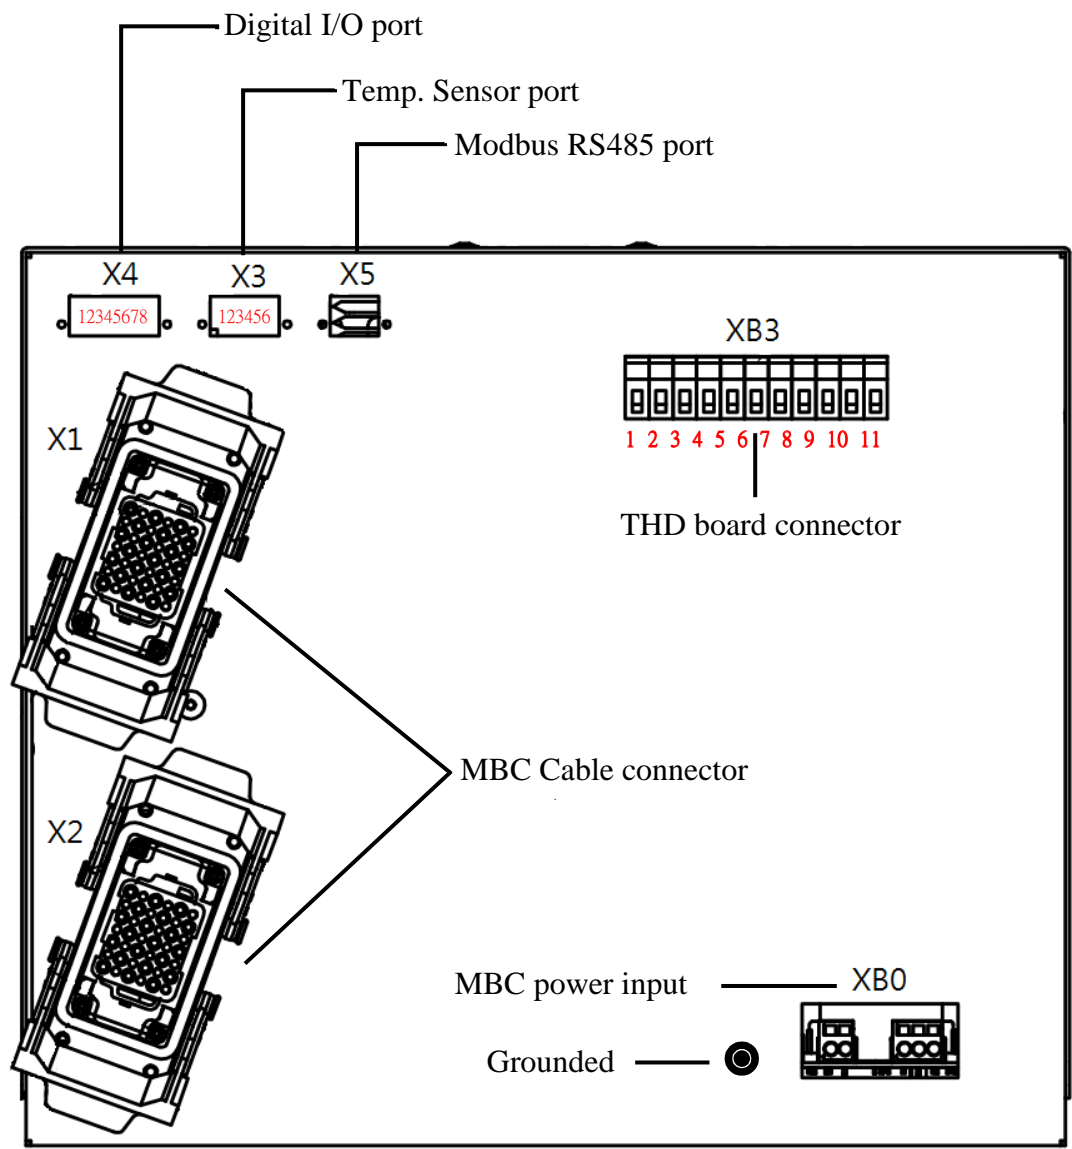

Figure 5.1 MBC connection
X1	Front bearing cable connector to motor, 2m (refer to figure 5.1)
X2	Rear bearing cable connector to motor, 2m (refer to figure 5.1)
X5	RS-485 protocol port (refer to figure 5.1)
XB3	Max. 250VAC/0.25A or 30VDC/2A power supply. (refer to figure 5.1)
1. X4 : Use I/O to monitor magnetic bearings by 24 VDC power supply (refer to figure 5.1) :